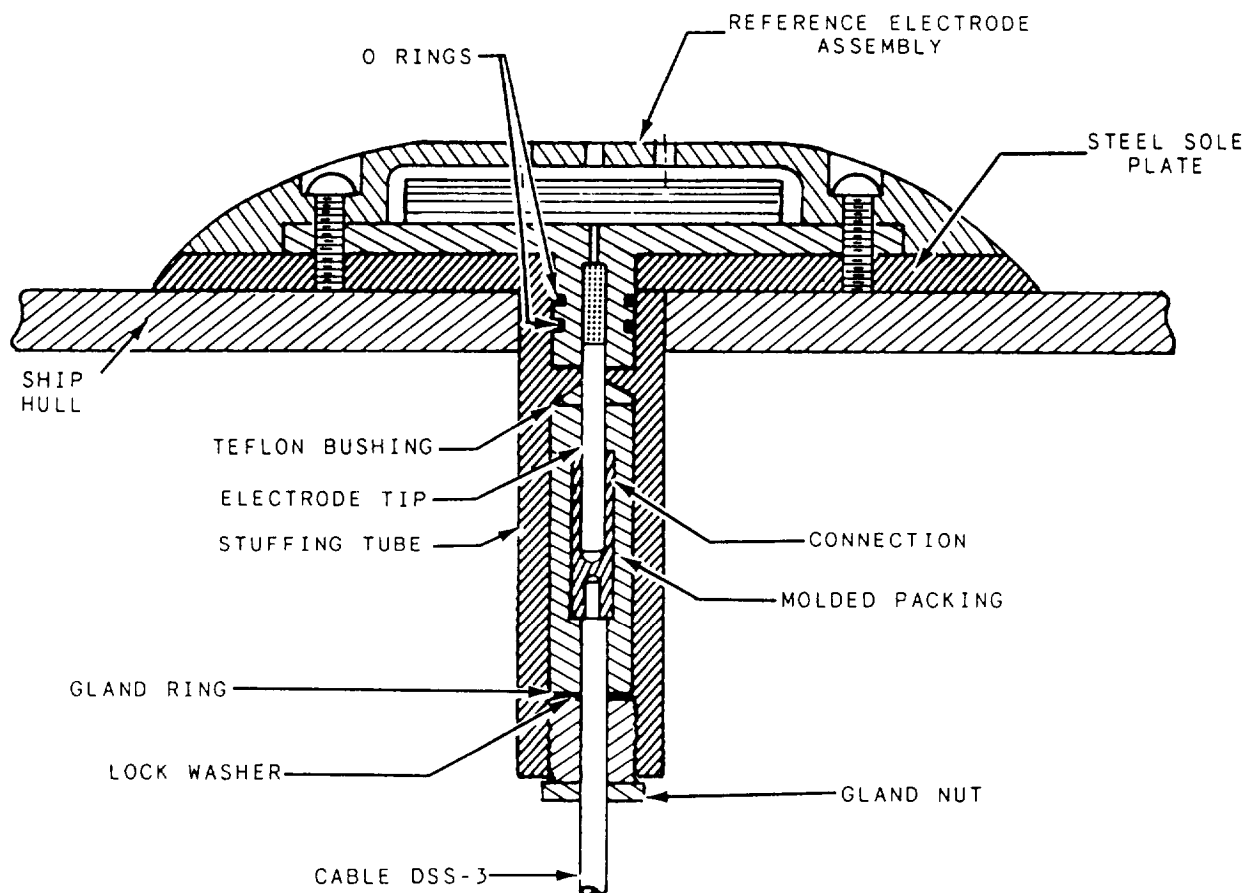

Figure 11-12.—Reference electrode assembly.
**Reference Electrode.**— The reference electrode (fig. 11-12) is a silver/silver chloride type constructed of a silver mesh screen that has been treated with silver chloride. It is bolted to the exterior hull of the ship and is insulated from the ship by a polyvinyl chloride holder. A stuffing tube is used to pass the cable from the electrode through the hull to the controller. The controller measures the potential of the hull versus the reference electrode, and signals the power supply to increase or decrease current output as required. This is to reduce the potential difference between the hull potential and the preset desired potential. Two reference electrodes are installed for each controller. One reference electrode is selected for the primary control; the other reference electrode serves as an